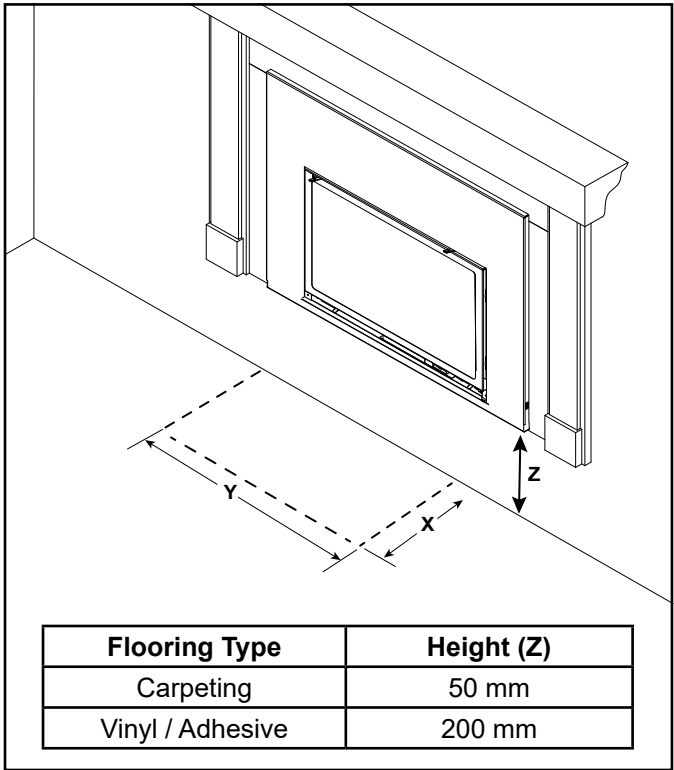

Figure 8.6 Hearth - Minimum Height for Carpeting Flooring
- Carpeting is acceptable in front of the appliance when the appliance is raised off the floor 2 inches (51 mm) or more. See Figure 8.6.